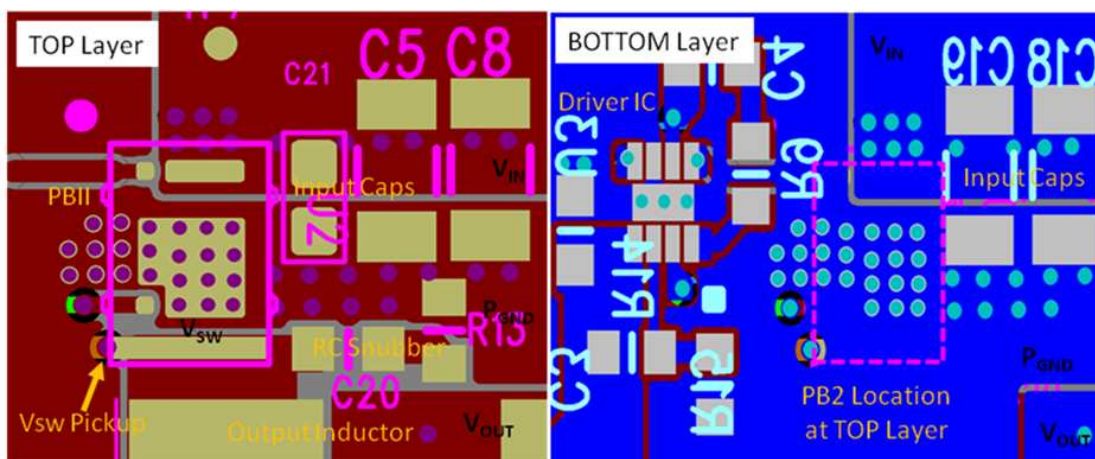

Figure 29. Recommended PCB Layout (Top Down View)
- The placement of the input capacitors relative to VIN and PGND pins of CSD87384M device should have the highest priority during the component placement routine. It is critical to minimize these node lengths. As such, ceramic input capacitors need to be placed as close as possible to the VIN and PGND pins (see Figure 29). The example in Figure 29 uses 1 × 10 nF 0402 25 V and 4 × 10 μF 1206 25 V ceramic capacitors (TDK part number C3216X5R1C106KT or equivalent). Notice there are ceramic capacitors on both sides of the board with an appropriate amount of vias interconnecting both layers. In terms of priority of placement next to the Power Stage C21, C5, C8, C19, and C18 should follow in order.
- The switching node of the output inductor should be placed relatively close to the Power Block II CSD87384M VSW pins. Minimizing the VSW node length between these two components will reduce the PCB conduction losses and actually reduce the switching noise level. See Figure 29. (1)
- Use the smallest drill size allowed in your design. The example in Figure 29 uses vias with a 10 mil drill hole and a 16 mil capture pad.